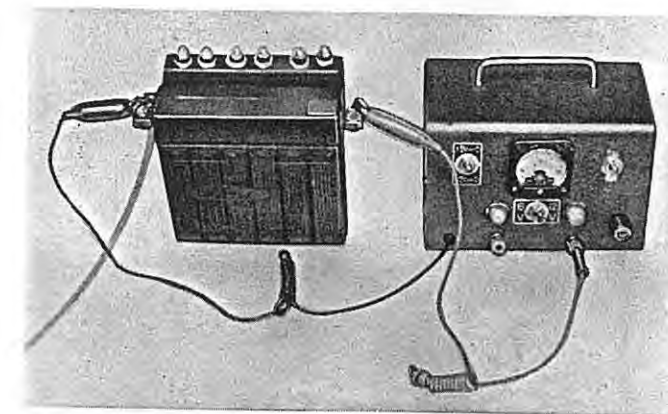

Fig. 11-29. Supplement charging of Battery
- 3) Keep always in charged state. If used for a long time in insufficient charged state trouble called sulphation will be accelerated and at last it invites such difficulty as to make it hard to restore original substance by usual charging. Such pole plate warps easy to short. On the other hand, if used with thin solution due to over discharging separator gets damage. Therefore it is requested to supplement change before the discharge limit. (Fig. 11-29~11-31).